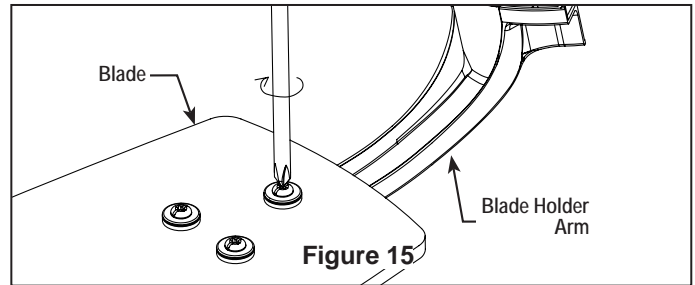

Figure 15
2. Position the blade over the blade holder with threaded posts showing. Make sure the bottom edge of the blade is fully seated against the blade arm. With a phillips screwdriver, tighten 3/16-24 x 7.5 mm phillips head screws and flat washers to secure the blade to the blade arm. (Figure 15)